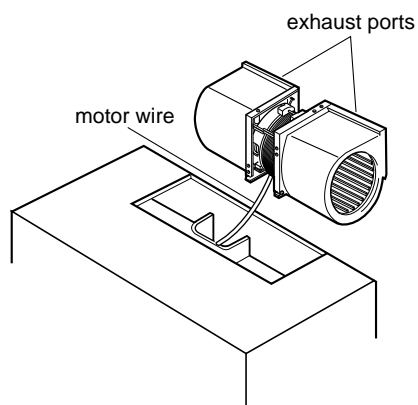

Figure 16
3. Rotate the vent motor 180° so the exhaust ports face the back of the cabinet. See Figure 16.